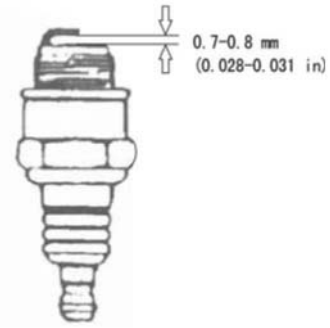

Figure 17 - Measuring the Spark Plug Gap
4. Measure the spark plug electrode gap with a gauge. The gap should be 0.028-0.031in (0.7-0.8mm). (See Figure 17.)